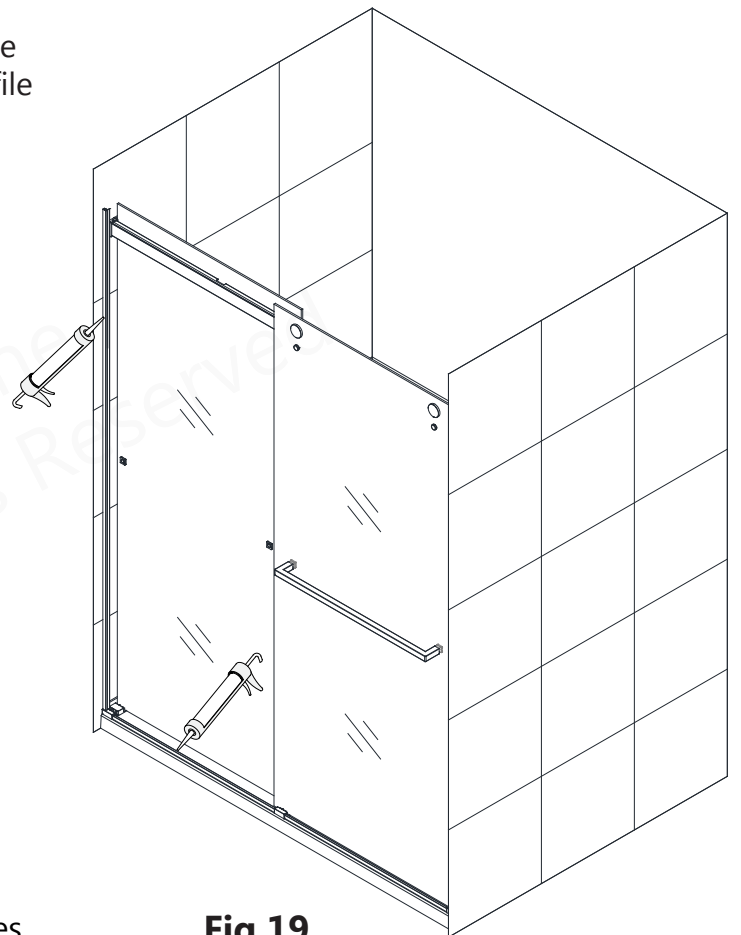

Fig 19
19. Apply a good quality mildew-resistant silicone on the walls and threshold along the bottom profile and wall profiles. **(Fig 19)**